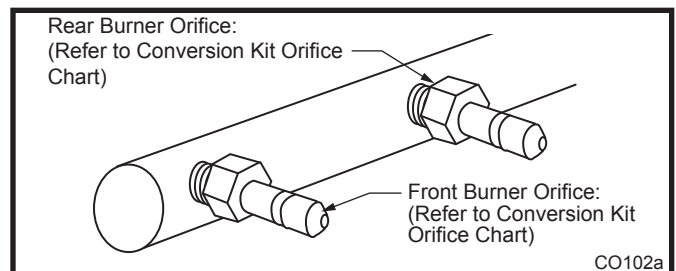

Fig. 63 Burner orifice replacement.
2. Remove burner orifice from manifold assembly using 3/8" wrench. (Fig. 63)